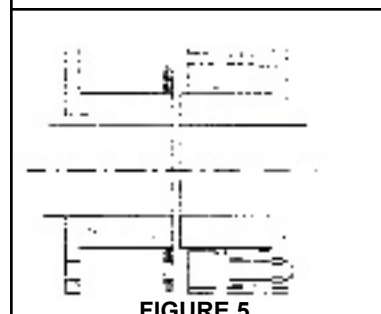

FIGURE 5
- 2) Loosen the coupling nuts and remove the hardware from one end of the coupling. Slide the adapter to one side as shown in Figure 5. Remove and replace the flex discs as shown.